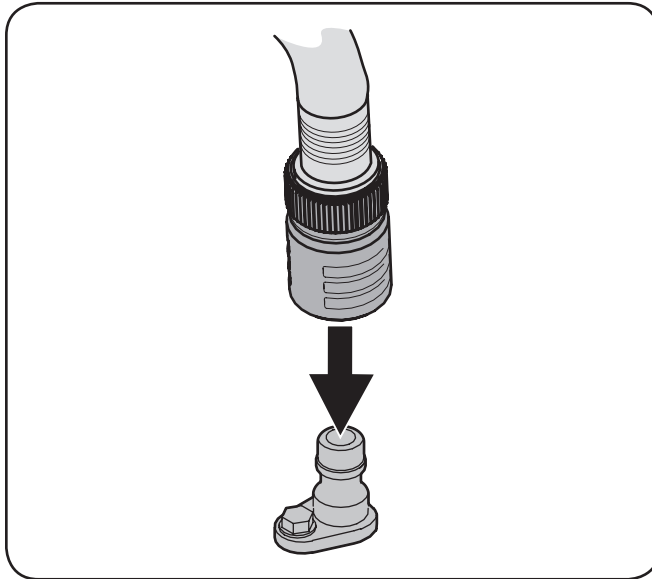

Figure 6-2
4. Attach the hose coupler to the water port on the left of your deck surface. See Figure 6-2.